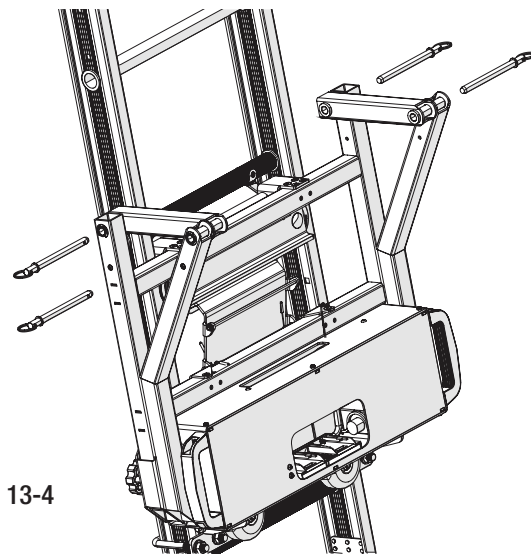

Fig. 13-4
- Insert a release pin in each of the four mounting hole located on each corner of the top of the carriage frame. See Fig. 13-4.